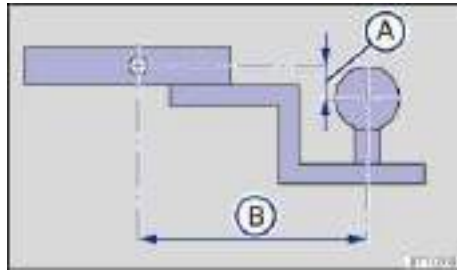

Fig. 109 Dimensions of the ball mount support.
⇒ fig. 109 (A), and the pin-to-ball distance (B).